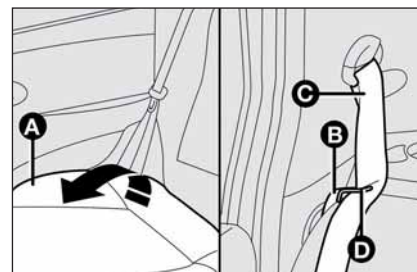

fig. 121
- ☐ check that the webbing **C-fig. 121** of each of the two side seat belts is inserted into the respective belt guiding catch **D-fig. 121**;
- ☐ raise the cushion **A-fig. 121** as shown in the figure
- ☐ release the seat back moving the levers **B-fig. 121** as shown by the arrow. Tilt it to make a single loading surface with the boot floor;